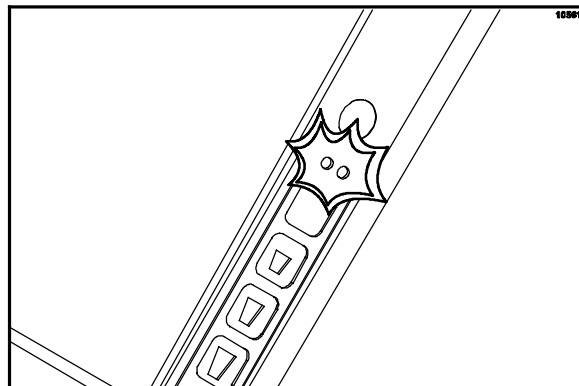

Figure 24
1. Make sure the dispenser is plugged into a receptacle. Place the power switch in the ON position. The control panel lights will illuminate in green. (See Figure 24.)